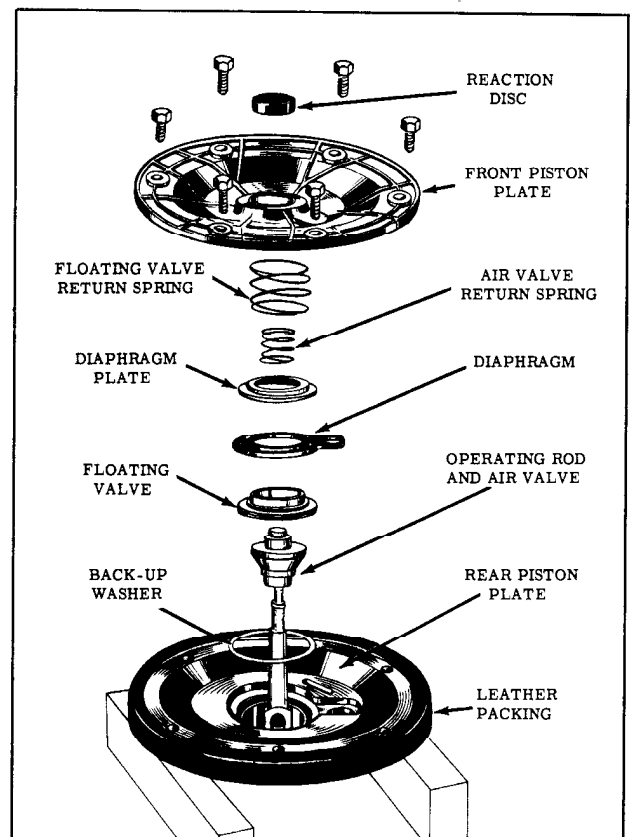

Fig. 7-33 Assembly of Vacuum Piston
3. If the floating valve was disassembled, assemble as shown in Fig. 7-33.
8. Position and align the front piston plate over the rear piston plate and loosely install the six attaching screws. (Fig. 7-33)